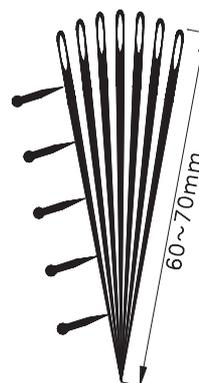

Fig B-5. A focus aid, made with sewing needles
If a commercial line-pair gauge is not available, a convergence style focus aid can be constructed, using sewing needles. See Fig B-5.
- Photocopy of Fig B-5
- A piece of 3 mm thick medium density fibreboard (MDF), or a piece of thin acrylic plastic, cut to the size of Fig B-5.
- Using adhesive, attach a photocopy of Fig B-5 to piece of 3.0 mm MDF, or thin acrylic, cut to the size of Fig B-5. Use this diagram for positioning the needles.
- Using Fig B-5 as a template, place the needles on top of the outlines shown in the drawing. Start first from the two outside positions, working from each side towards the centre. A pair of tweezers will help in positioning. The ‘rotation’ position of the needle eye is not important.
- If using the focus aid (Fig B-5), observe the distance from the apex before blurring occurs, which indicates focus quality.